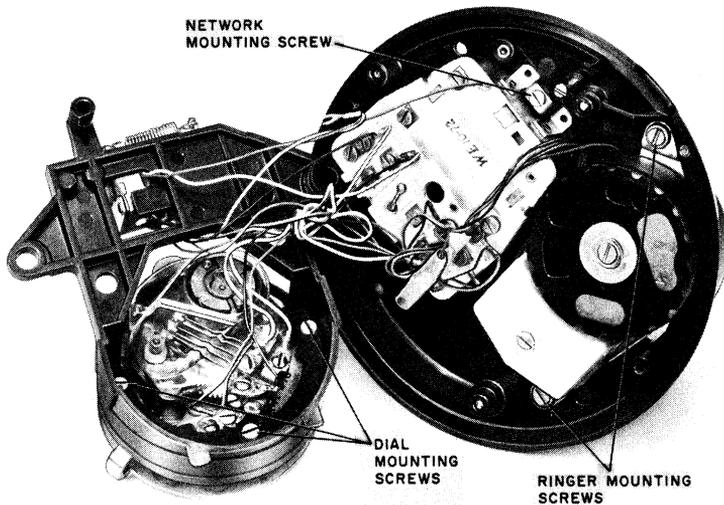

Fig. 6—Removing Dial, Network, and Ringer
- (3) Remove one network, two ringer and three dial mounting screws from the base and remove network, ringer and dial (Fig. 6).
- (4) Unscrew transmitter and receiver caps and remove T1 transmitter and U3 receiver units.